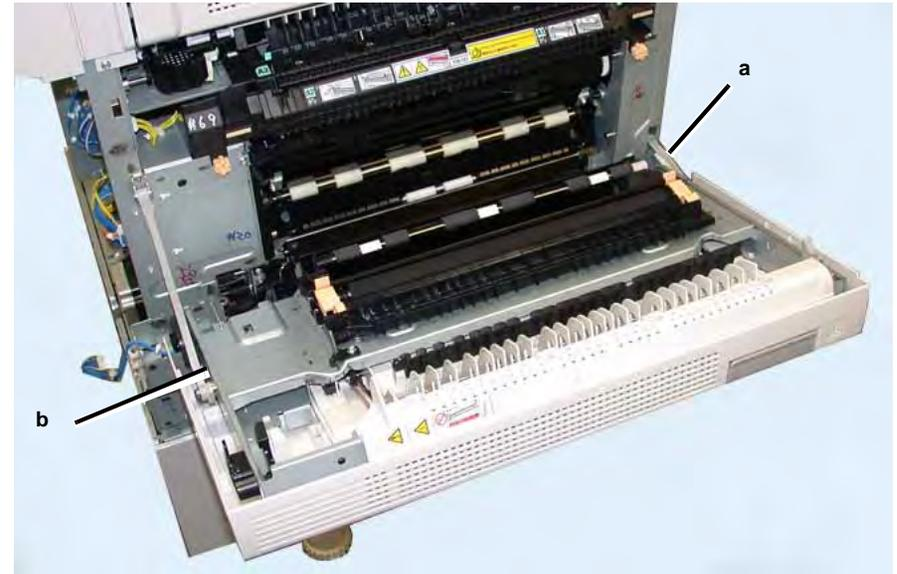

Figure 2 Left Hand Cover
5. Remove the Left Hand Cover Assembly (Figure 2).